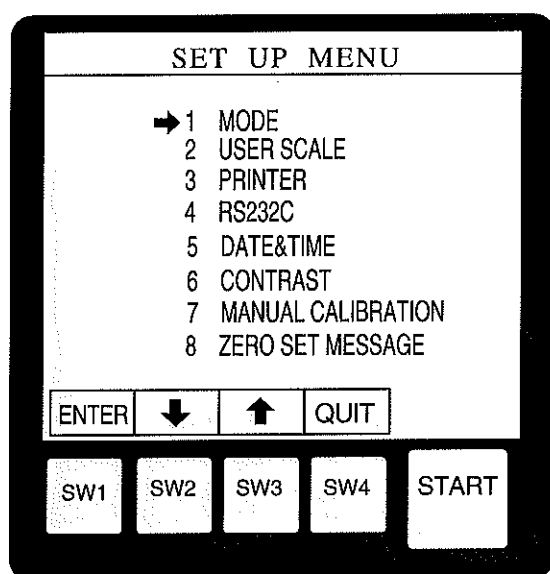

Fig.12-9
- Using the SW2 (↓) or SW3 (↑) key, select "8. ZERO SET MESSAGE," and then press the SW1 (ENTER) key. (Fig.12-9)